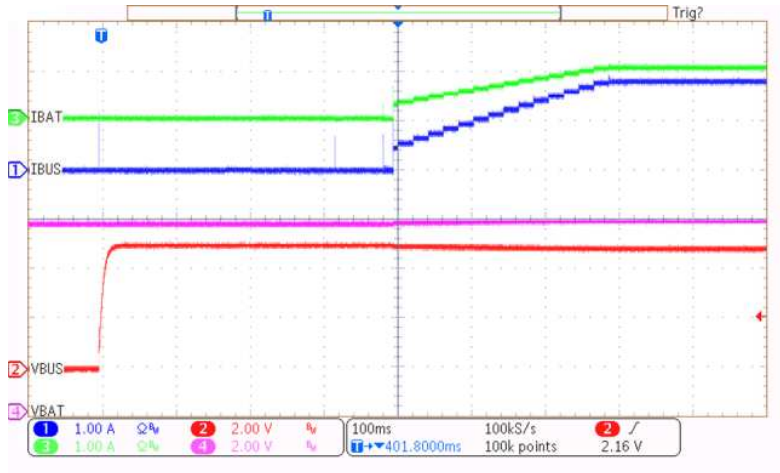

Figure 2. Charge Mode Startup
1. **Figure 2** shows the test setup for BQ25887 when in charge (boosting) mode including jumper settings per **Table 2**. Ensure that the power supply and battery simulator are turned off before connecting to the EVM.
Figure 2 shows the *Charge Mode Startup* graph.